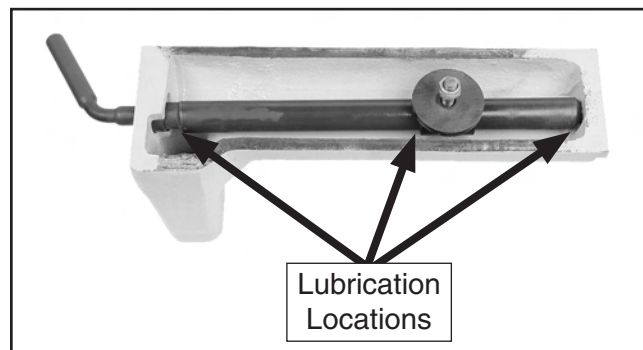

Figure 54. Locations to lubricate bottom of tool rest holder.
3. Place a couple drops of machine oil at each pivot point at the shaft ends and under the locking plate. Turn the tool rest lock lever and move the locking plate to distribute the oil (see **Figure 54**).